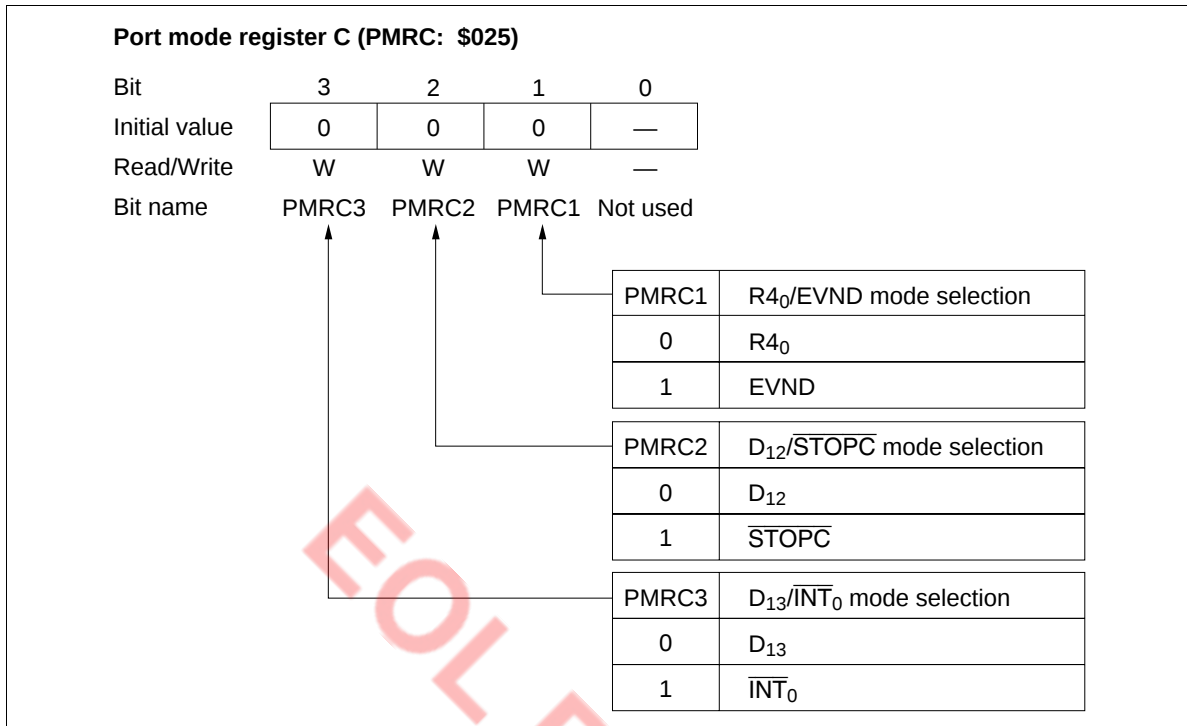

Figure 50 Port Mode Register C (PMRC)
- Port mode register C (PMRC: \$025): Write-only register that selects R4₀/EVND pin function as shown in figure 50. It is reset to \$0 by MCU reset.